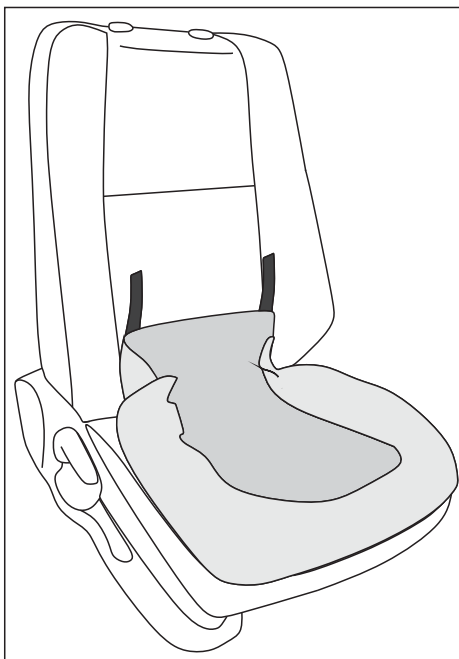

Fig.3
3. Turn base cover inside out, place and align over seat cushion (Fig.3).